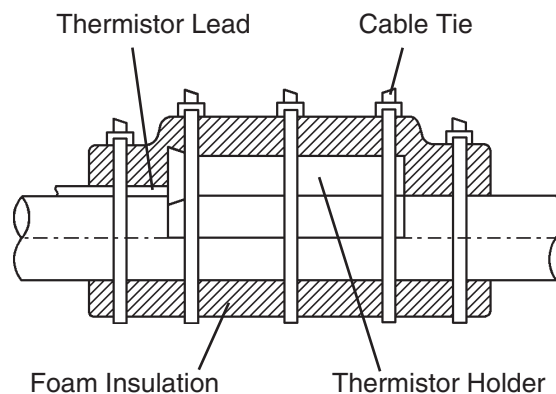

Fig. 4
- 5) Remove the plastic cable ties, foam insulation, thermistor holder and thermistor. See Fig. 4.